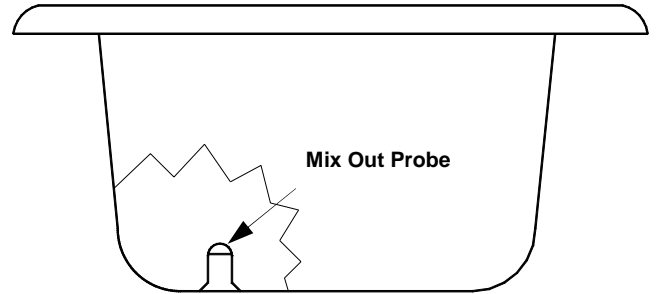

Fig. 23
12. The remainder of the machine - including the mix pan, the mixout sensor mounted in the bottom of the mix pan (see Fig. 23), and the freezing cylinder - must be cleaned in place using a mild detergent solution.